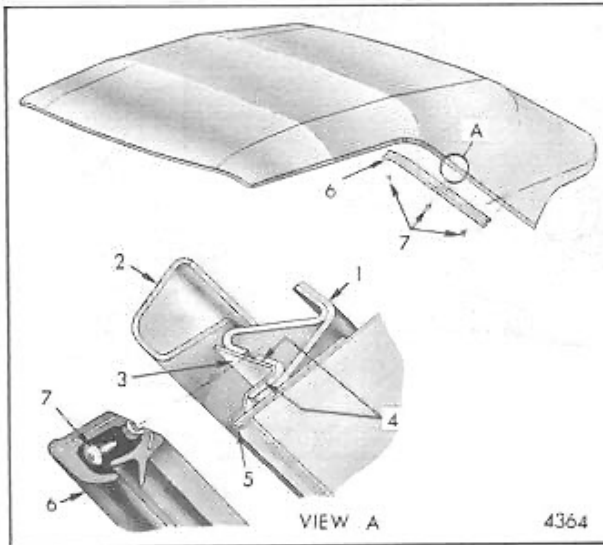

Fig. 6-Side Roof Rail Rear Weatherstrip and Quarter Retainer Attachment
4. With top lowered half-way, remove side roof rail rear weatherstrips. Mark reference locations of quarter retainers on side rails (Fig. 6) and detach cemented retainers from side rails.
- B. Apply trim cement to lower area of side roof rear rail and to top cover quarter retainer (flap). Center top (laterally) by aligning horizontal reference on each side at trimstick. Secure quarter retainer (flap) at bottom. Also, double staple or tack top cover at front of trimstick (Fig. 6 and View "Z", Fig. 4) using 12 ounce tacks or equivalent staples.
- C. Align top cover horizontal reference at center (in accordance with steps A and B above) and staple or tack in place. Work forward and rearward from center. Keep material in alignment and flat. Avoid stretching. Space staples or tacks about two (2) inches apart.
16. With top locked to windshield header, cement, align and secure upper areas of quarter retainers (flaps) to side roof outer rear rails. Re-check alignment of top cover over center bow, and align quarter retainer seams with edges of side roof rear rails. Remove all fullness from rear of top cover (Fig. 6). A forward draw on cover outer sides will aid this operation. Align quarter retainers to each rear rail and cement securely in place. Top cover binding at quarter retainers should not curl away from rear rail.